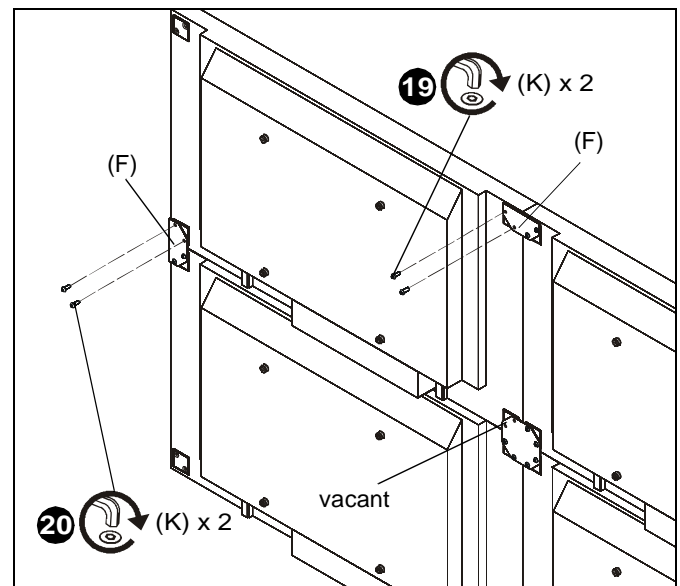

Figure 13
19. Install two M4 x 16mm security screws (K) through holes of edge attachment bracket (E) and into upper left holes of upper right display. (See Figure 13)
20. Install two M4 x 16mm security screws (K) through holes of edge attachment bracket (E) and into lower right holes of upper right display. (See Figure 13)